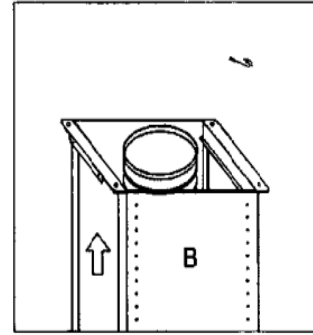

Figure 9
- Fix the pipe to the hole we made on the ceiling (or prepared air evacuation hole). (Figure 9).